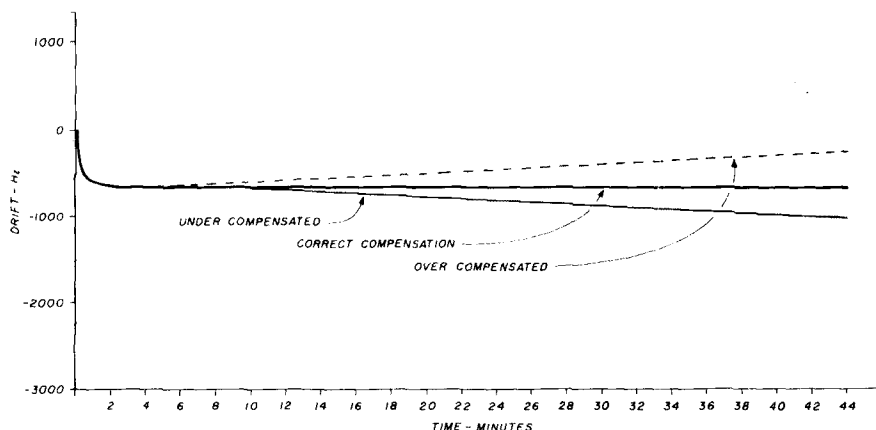

fig. 4. Typical results of the oscillator drift tests. Incorporating the drift correction circuit described by PA0KSB will reduce the frequency change to zero.
A series of tests was performed using NTC capacitors with various temperature coefficient values. Finally, a 51-pF, N330 capacitor was selected. An additional 24-pF, NTC 150 capacitor was added in parallel to bring the circuit temperature coefficient within range of C4. C4 is a key circuit element because it allows the effective temperature coefficient to be adjusted, and therefore the amount and direction of oscillator drift. The proper setting was found after a number of drift tests were performed over a period of a few hours using different settings of C3 and C4. The results of these tests are shown in fig. 4.
fig. 4. Schematic diagram of the 555 connected as an astable multivibrator and the waveforms at different points in the circuit (B). In applications where a 50 per cent duty cycle is required, the circuit shown in (C) can be used. In this case, $CR1$ effectively shorts out R_B during the capacitor charge time.